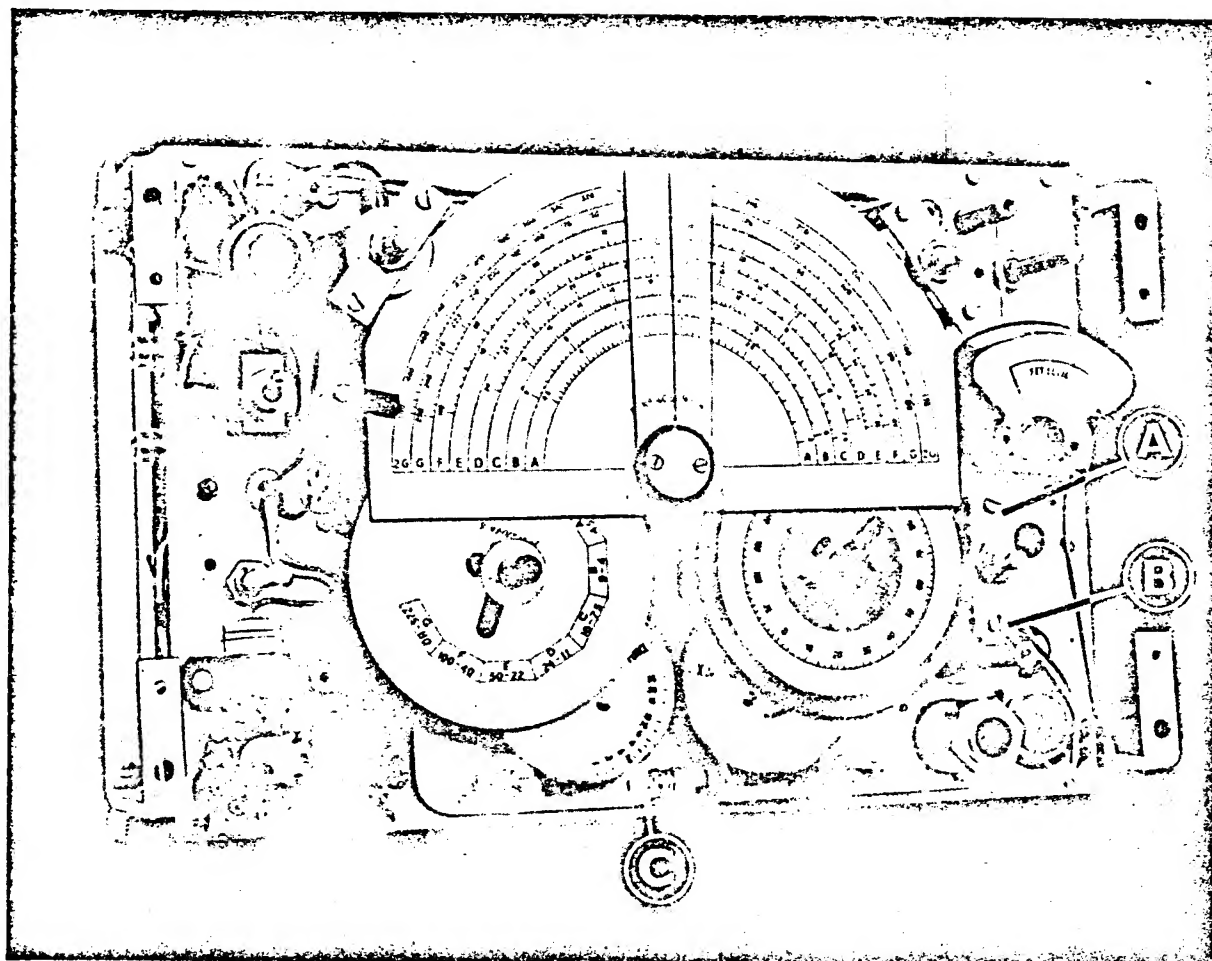
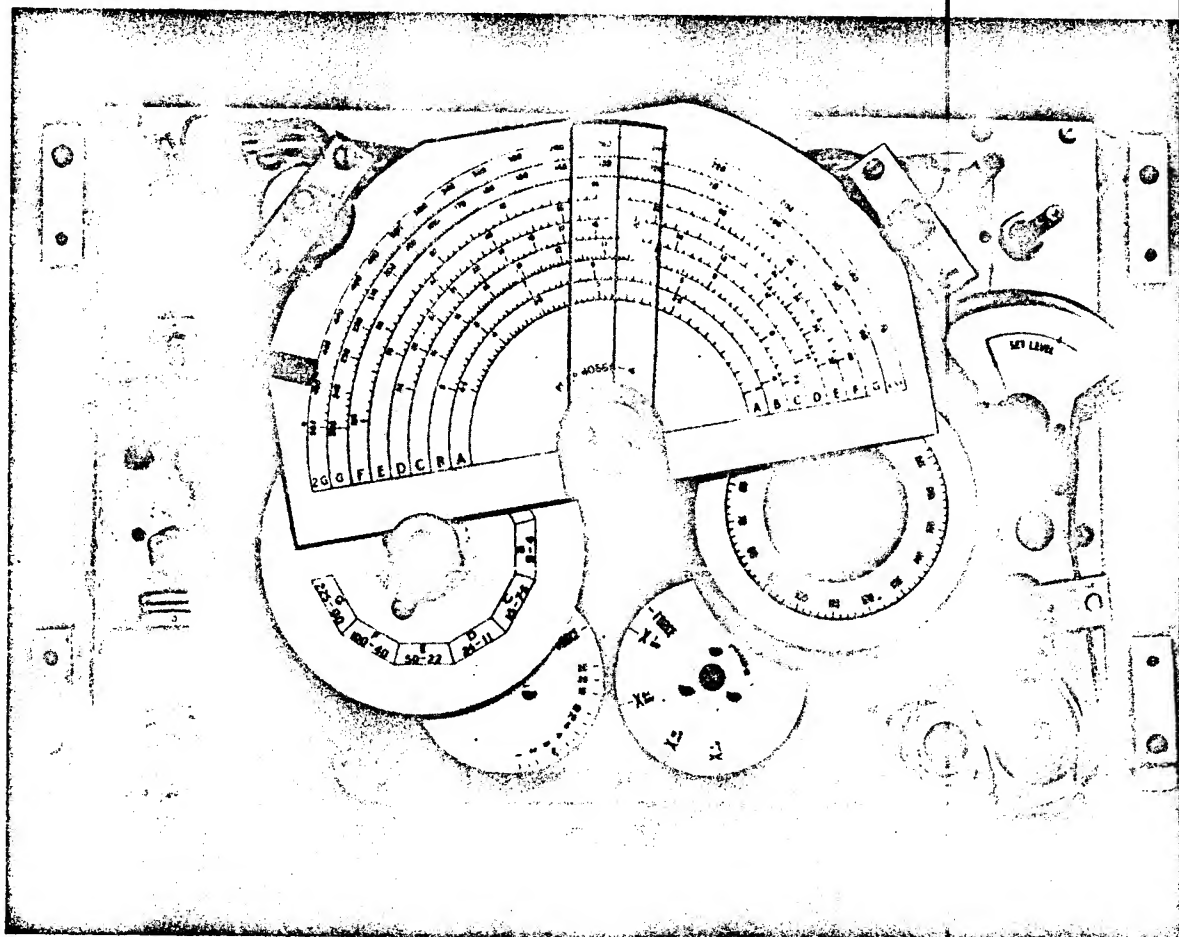

Fig. 2.2.1
Fig. 2.2.2
- (1) Mark and unsolder three wires from the output terminals below the control panel, also the modulator bias lead.
- (2) Unscrew the retaining rings from the MAINS input plug and MAINS switch so that they will drop through the panel.
- (3) Remove knobs and carrier from control spindles by removing the screw in the top of each knob, and then extracting the retaining pin from each knob carrier. Unscrew the knurled ring from the ENGAGE FINE CONTROL. Note the washers.
- (4) Remove carrying handles.
- (5) Remove the retaining nut from the MOD. switch so that it can drop through the panel.
- (6) Remove eight fixing screws from the control panel.
- (7) Remove movement fixing nuts from SET LEVEL INDICATOR.
- (8) Lift off control panel. (See Figure 2.2.1).
- (9) Remove bolt in pillar 'A' and loosen the other 'B' holding the drive to the right hand uniformly calibrated dial, and swing assembly away from dial. Remove bulb holder 'C'. (See Figure 2.2.2).
- (10) Set the Cursor to the low frequency-F.H.S. end of scale and turn instrument over. Carefully unscrew circular screening can from r.f. compartment.
- (12) Turn instrument back to its original position, and unsolder wire entering attenuator from the tag-board on the left hand side of the attenuator.
- (13) Remove the seven screws holding the attenuator to the main chassis. The heads of the screws are on the Mains transformer side of the plate. Two of the screws hold down the back cover of R.F. output plug.
- (14) Remove the hexagonal pillar that holds screw A (Fig. 2.2.1). Place the right hand uniformly divided dial into the position shown in Figure 2.2.2. Turn the spindle until the hole in the circular plate beneath the calibrated dial lines up with the plug-nut in the attenuator casting. Loosen this plug-nut.